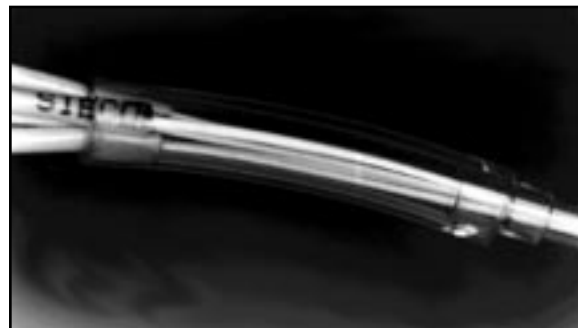

FIGURE 9 - INSERTING PIGTAILS INTO PIGTAIL TUBE ASSEMBLY
5.07 Feed the group of six buffered fibers into the end of one of the Pigtail Tube Assemblies with the larger diameter tube section, until the pigtail jackets are within the larger tube about 3/8" to 1/2" (10 mm to 13 mm). (Figure 9)